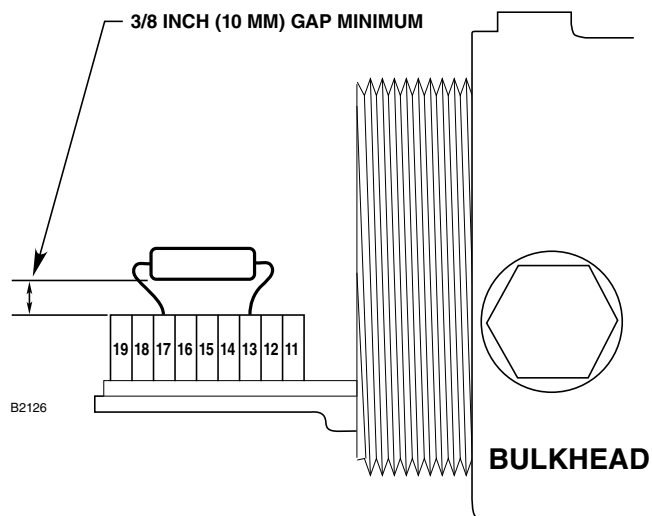

Figure 6—EOL Resistor Installation
3. Bend the leads and install the EOL resistor as shown in Figure 6.